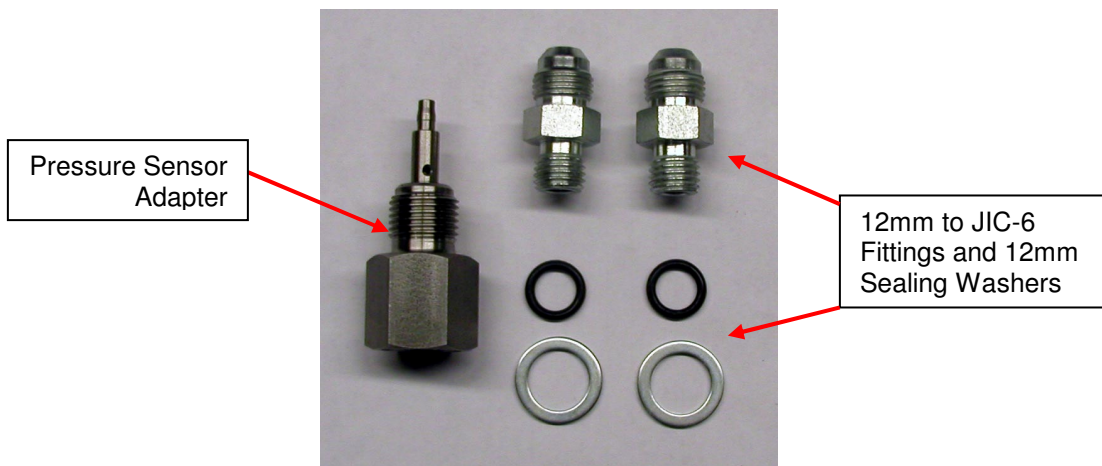

Figure 1 - CP3 Pump Fittings
1. Please make sure all pump fittings are packaged together in the Dodge Twin CP3 “No-Pump” Kit. These fittings are shown in **Figure 1**.